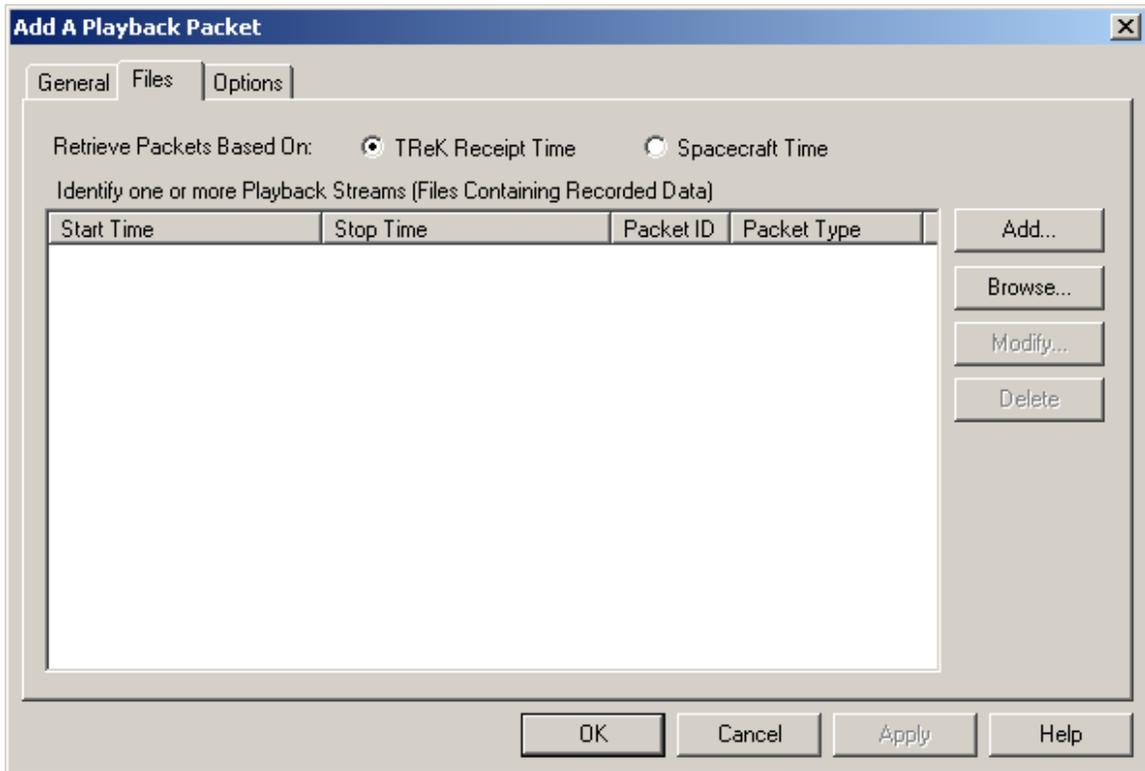

Figure 8 Add A Playback Packet (Files Tab) Dialog
- Go to the Files tab. You will see the dialog shown in Figure 8. Since we are going to be playing data back, we need to provide some information about the recording files where the data is stored.